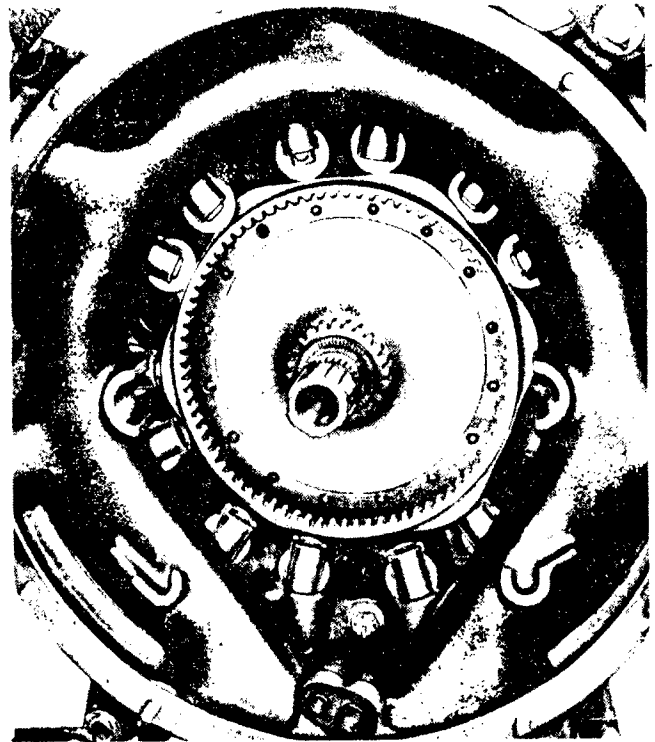

Figure 81 — Rear Bearing Spacer and Cam Ring Installed on Tail Shaft
(5) Rotate the engine to the vertical position. Dip the roller end of the tappets in oil and slide each tappet into its guide. Put the tappet rollers and roller pins in place by sliding each tappet in to receive its roller and pin, and then pushing it out far enough so its roller pin will not fall out. Install circlips immediately to prevent loss of tappet rollers.
(6) Install the rear bearing spacer on the tailshaft and place the cam ring in position, pushing the cam followers out of the way. (See figure 81.)
(7) Lubricate the tailshaft, cam hub and cam drive gear thoroughly. Place the cam drive gear in position on the tailshaft.
(8) Install a spare starter gear on the tailshaft. Make sure the serrations are properly meshed and tighten the nut to the specified torque (~~360~~ to ~~400~~ inch-pounds). Check the clearances between the cam hub and the cam drive gear (.010 inch is desired), minimum is .008, maximum .012 of an inch. If excessive clearance is present, replace the cam ring. If insufficient clearance exists, face off the cam hub to obtain desired clearance. After a satisfactory check, remove the starter gear.